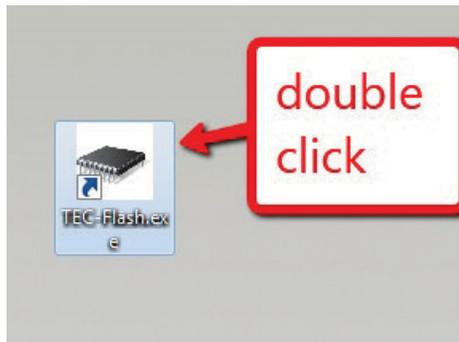

Figure 7 TEC-Flash.exe Icon
- Open the TEC-Flash.exe program. See Figure 7.